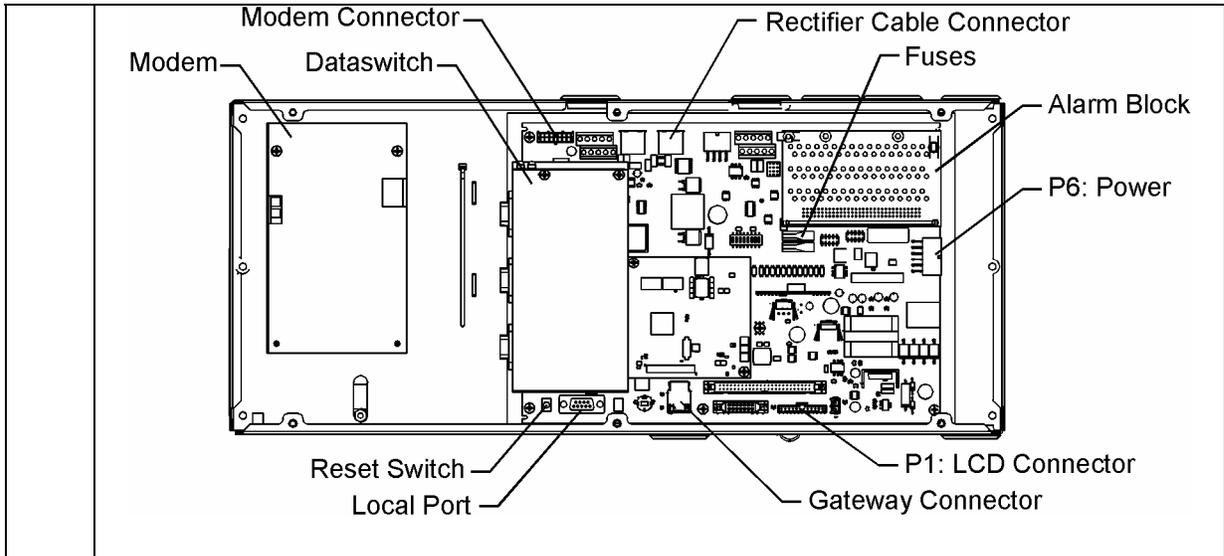

Figure 6-6: Millennium II Connections
a.	On the controller locate P1. It is located at the lower right hand corner of the board. (see Figure 6-6)
a.	Inside of the controller housing, determine if a Modem card is installed. It will be located to the left of the MCR1 board. (see Figure 6-6)
a.	On the controller, locate the BSL alarm block. It is located in the upper right hand corner of the MCR1 board. (see Figure 6-6)
a.	Using a fuse puller, remove F1 on the MCR1 board. This is the controller power fuse. (see Figure 6-6)
b.	Next, locate P6 at the right hand corner of the MCR1 board. (see Figure 6-6)
The RJ45 connector is located at top of the MCR1 board and is labeled P9. (see Figure 6-6)